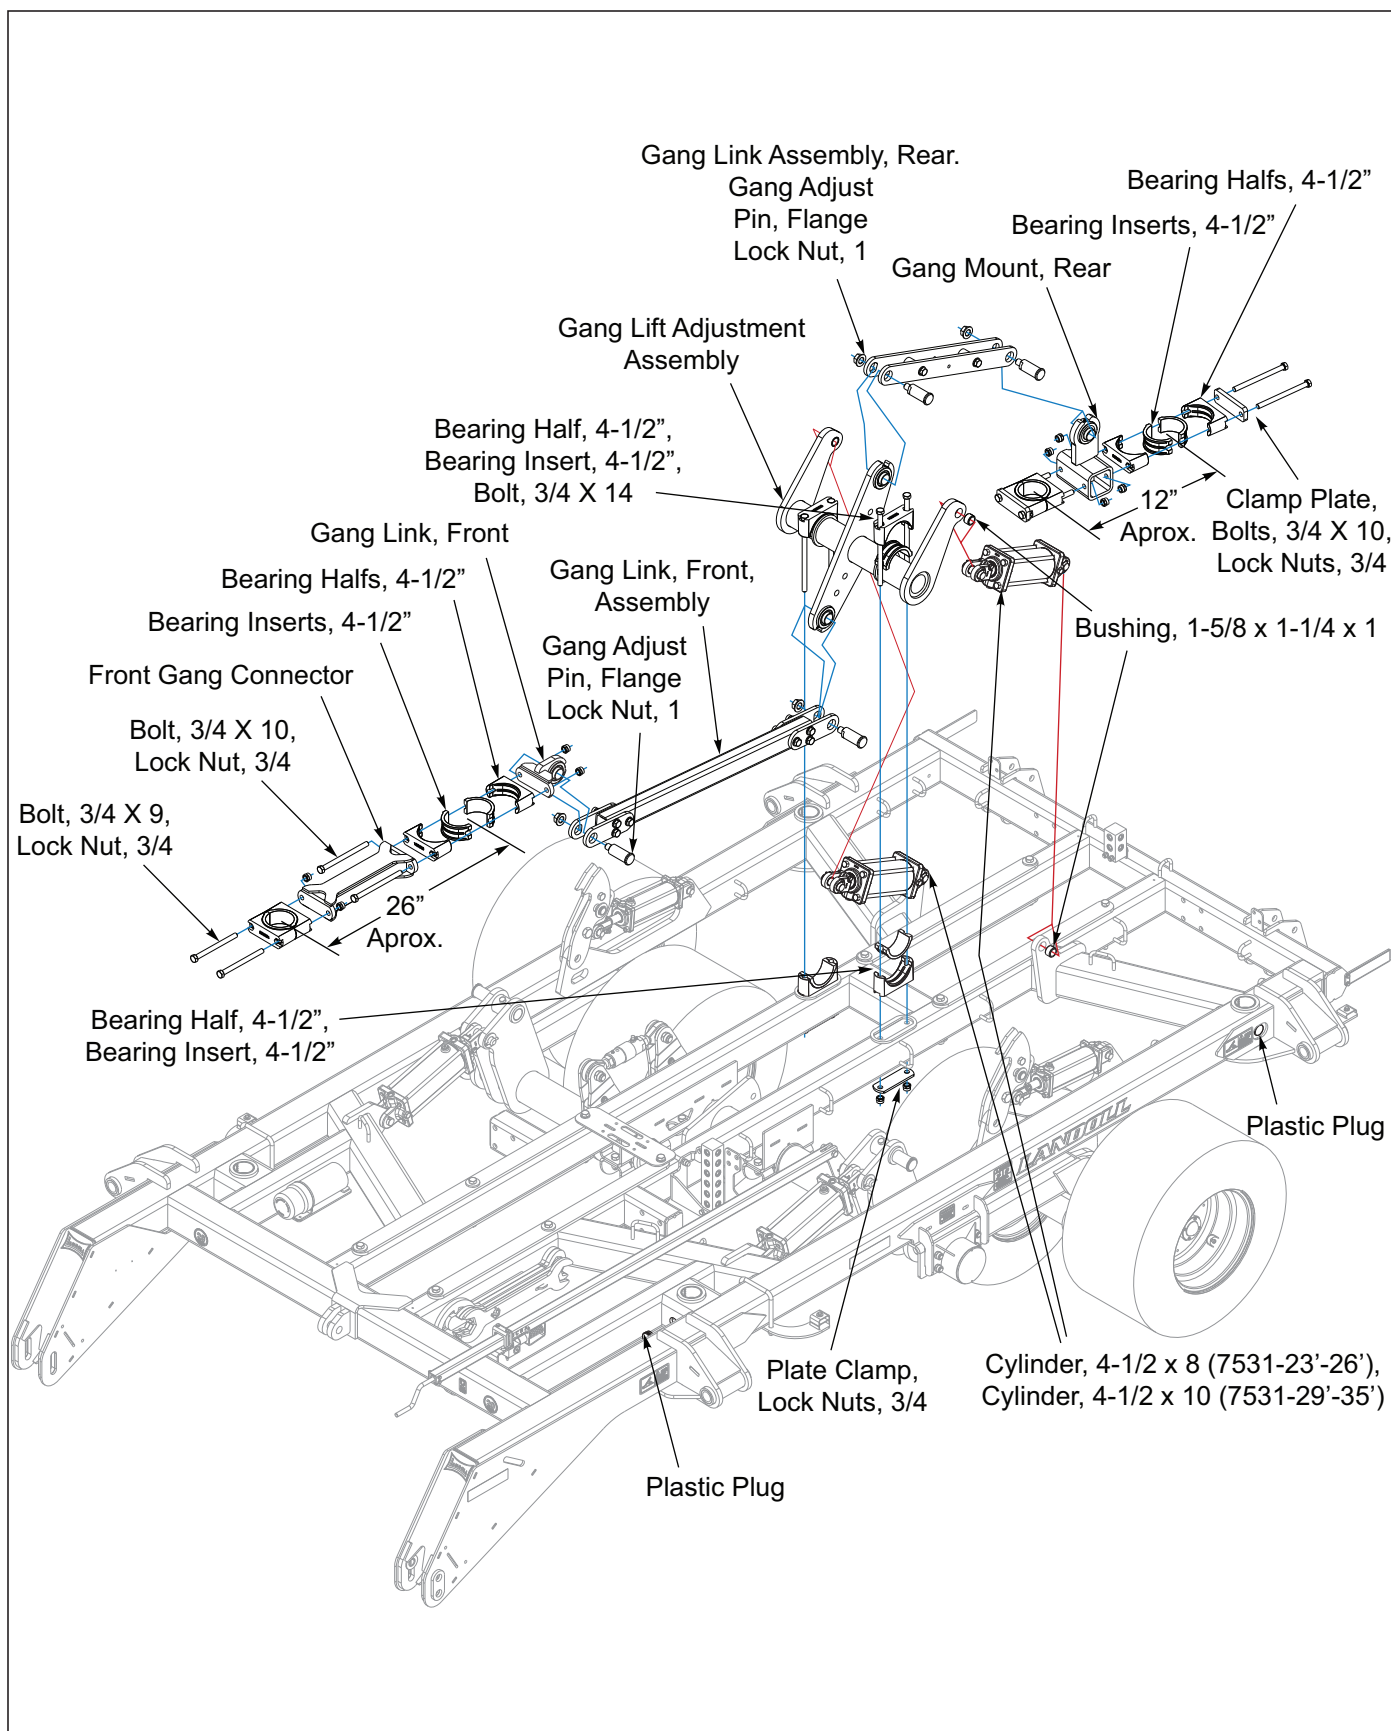

Figure 3-37: Center Gang Adjust Installation
1. Install the left front disc gang assembly by moving disc gang assembly to proper frame position (**See Figures 3-37.**) Install gang pivot pin through gang pivot tube of gangbar, there are notches that will need to be aligned so the pin will not rotate in the gang bar. Install the 3" stainless steel thrust washer over the gang pivot pin, and pin will go on through the gang pivot mount welded to the center frame. Install the 2" diameter blue steel washer to the threaded end of the gang pivot pin along with the stainless steel thrust washer and gang pivot nut. If the top bushing in the center frame pivot comes out a little while the pin is going through, just put the gang pivot nut on and hand tighten down to press it back into place. Next loosely install the gangbar slide on top of the center frame slide pads along with the blue washer with a 1-13/16" diameter hole and 1-3/4" slotted nut in the middle of the center frame to keep the end of the gang from falling.
4. The front gangs have a distance of 26" from center to center of the gangbar pivot shafts sticking up, move gangs to where this is close and the gangs are close to the front of the machine as shown in (**See Figures 3-37.**) Assemble the front bearing halves and insert the 3/4-10 x 9" bolts through the front connector. Assemble the rear bearing halves and insert the 3/4-10 x 10" bolts through the connector and into front link weldment that is already on the frame assembly. Tighten these four bolts alternating sides to tighten the cast bearings up evenly. With both bearings tight install 1 stainless steel washer or 2 on top of the bearing inserts and reinstall the gang bar slides, blue washers with 1-13/16" diameter hole and slotted nuts.